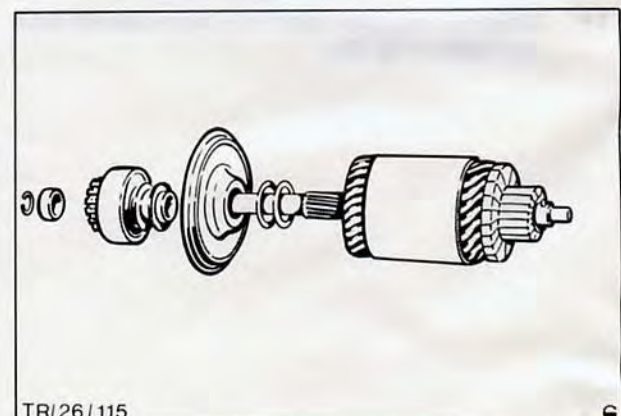

Fig. 71. Drive pinion/roller clutch assembly shown away from armature
14. The drive pinion/roller clutch assembly, Fig. 71, is removed from armature by driving off thrust collar using a suitable tube or box spanner. Remove 'C' clip and slide off pinion assembly. The intermediate bracket can be removed at this stage, but note that shims between intermediate bracket and armature core determine armature end float 0,63 mm (0,025 in) therefore they must be retained.